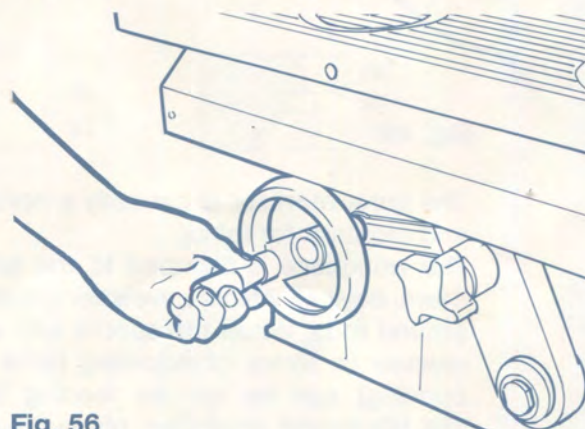

**Fig. 54**
Be sure to loosen the main locking lever turn elevating handwheel (B) clockwise to lower the table and turn it counterclockwise to raise it (**Figure 54**). It is best to use handwheel (A) **Figure 1** on page 6) for fine adjustments.